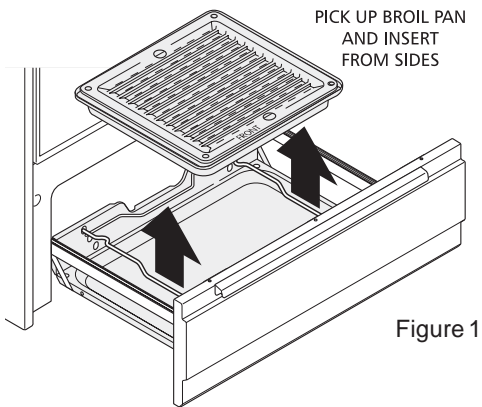

Figure 1
2. Remove broiler pan and insert (See Figure 1).